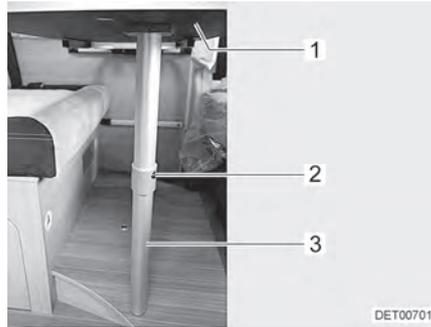

Fig. 60 Bed foundation
- Slightly raise the front of the table top (Fig. 60,1).
- Press the release knob (Fig. 60,2) and fold the lower part of the fold-out leg (Fig. 60,3) by 90°.